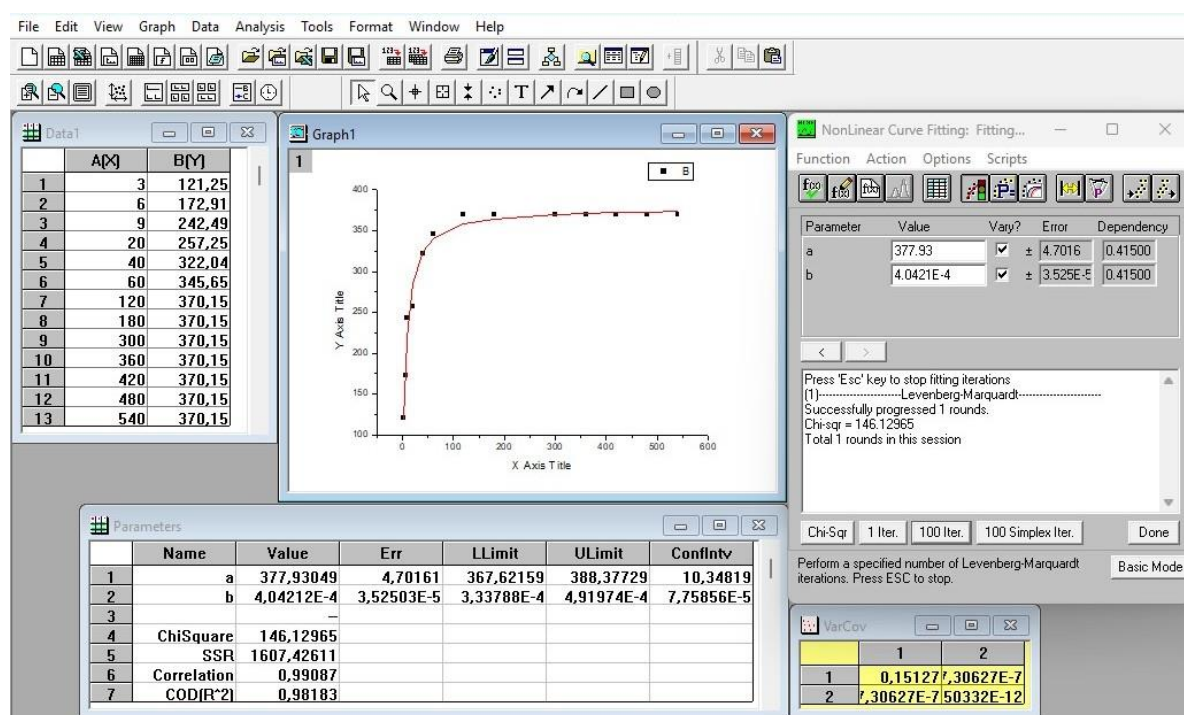

Figure 18S. Carrying out the iteration process
5. Click in the fit button and then click in the appropriate iteration button. To record the parameters on the graph, click done button. The parameters and the variance-covariance matrix can also be viewed in the form of a spreadsheet (Figure 18S).